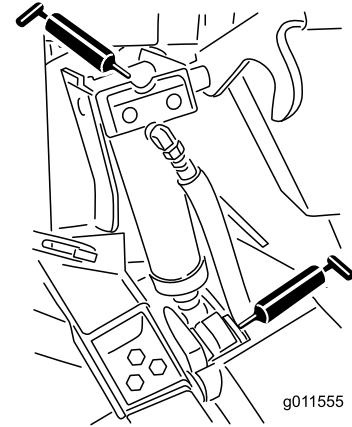

Figure 88
- 4 lift-cylinder bushings (Figure 88)